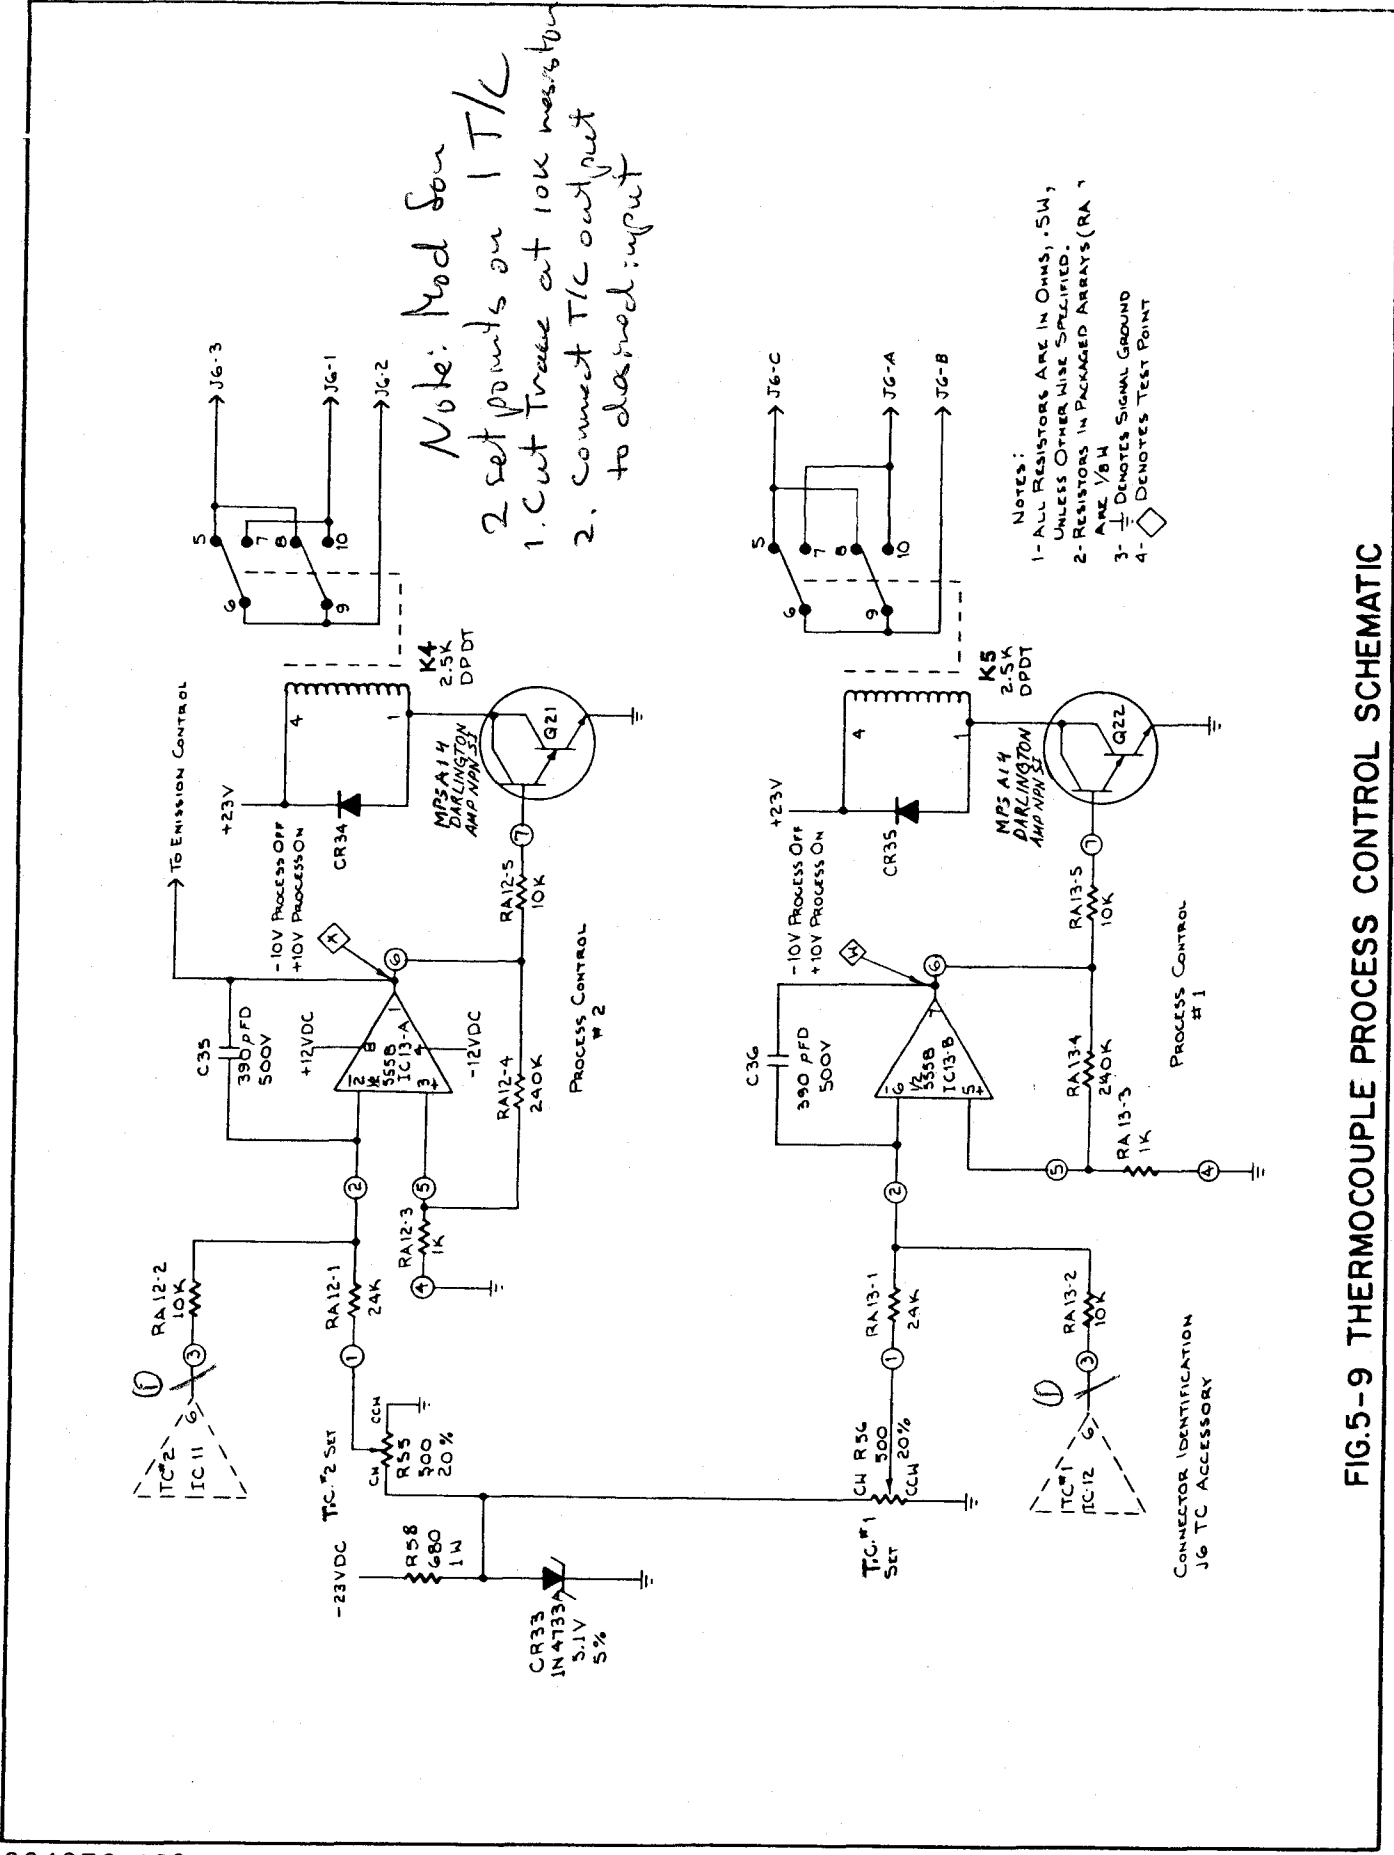

FIG. 5-9 THERMOCOUPLE PROCESS CONTROL SCHEMATIC
5.12 Thermocouple Process Control (Refer to Fig. 5-9)
The output of IC13-A is also used to control the filament relay (refer to Fig. 5-9).